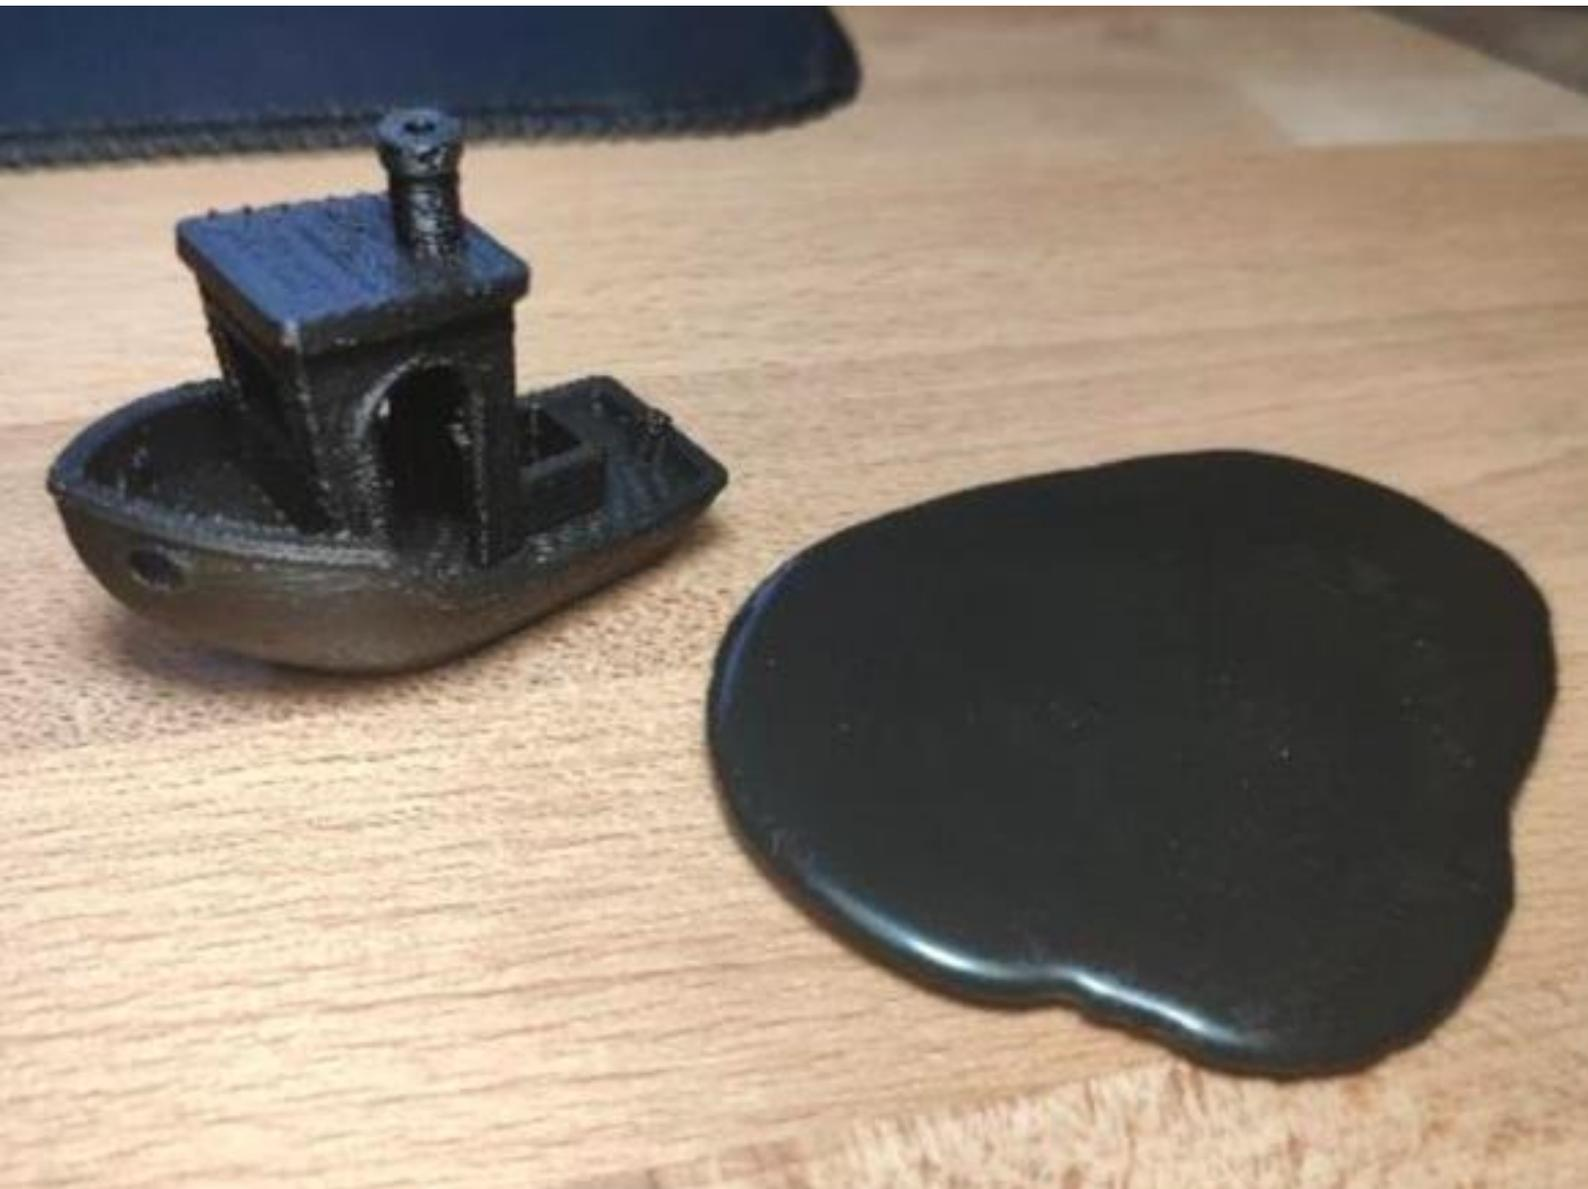

Figure 33 - Melted part after heat test. Used with approval of N. Van Silfhout, 2020.
- Heat resistance testing.** If your part will have to withstand high temperatures or be close to components that get hot, we recommend testing it for temperature resistance before installing it in the product. This will allow you to identify if the part will be able to withstand normal use and avoid accidents caused by melted parts. Examples of testing methods are: Putting the part in an oven or submerging it in hot water for a certain amount of time. A heat gun or hairdryer can also be used for the testing, but temperature is less controllable. You can gradually increase the temperature and observe if the part deforms in any way. Mechanical testing can also be done after heat exposure to identify any differences in mechanical properties before and after. Figure 33 shows an example of a part melting after being exposed to hot air from a heat gun.